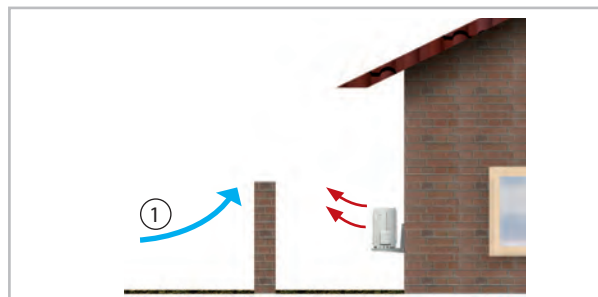
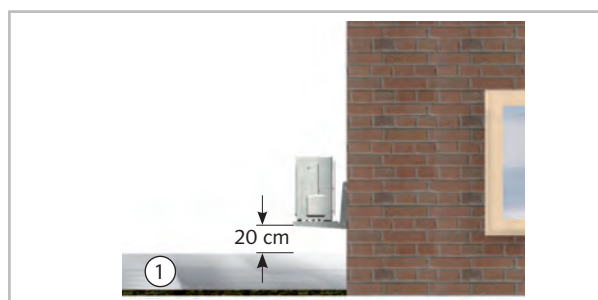

Fig. 20: Protection from wind
Fig. 21: Protection from snow
- If the outdoor unit is erected in an area of strong winds, then the device must be protected against them (Fig. 20). The snow line is to be observed during installation (Fig. 21).
- During installation, add about 20 cm to the expected snow depth to guarantee unimpeded intake and exhaust of outdoor air year round (Fig. 21).